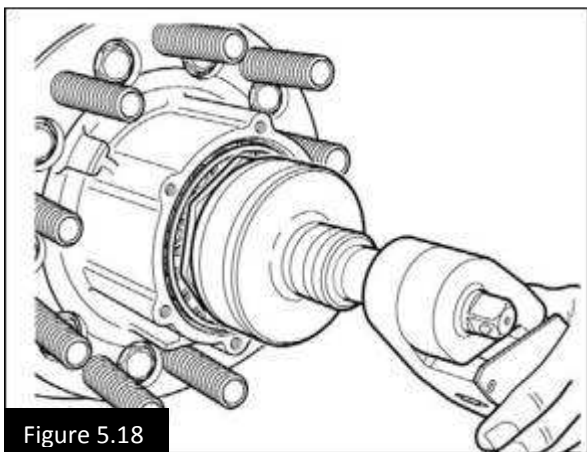

Figure 5.18
9. Tighten the nut to 36 Lb. Ft. (50 Nm). While rotating the wheel end in both directions (Fig. 5.18).